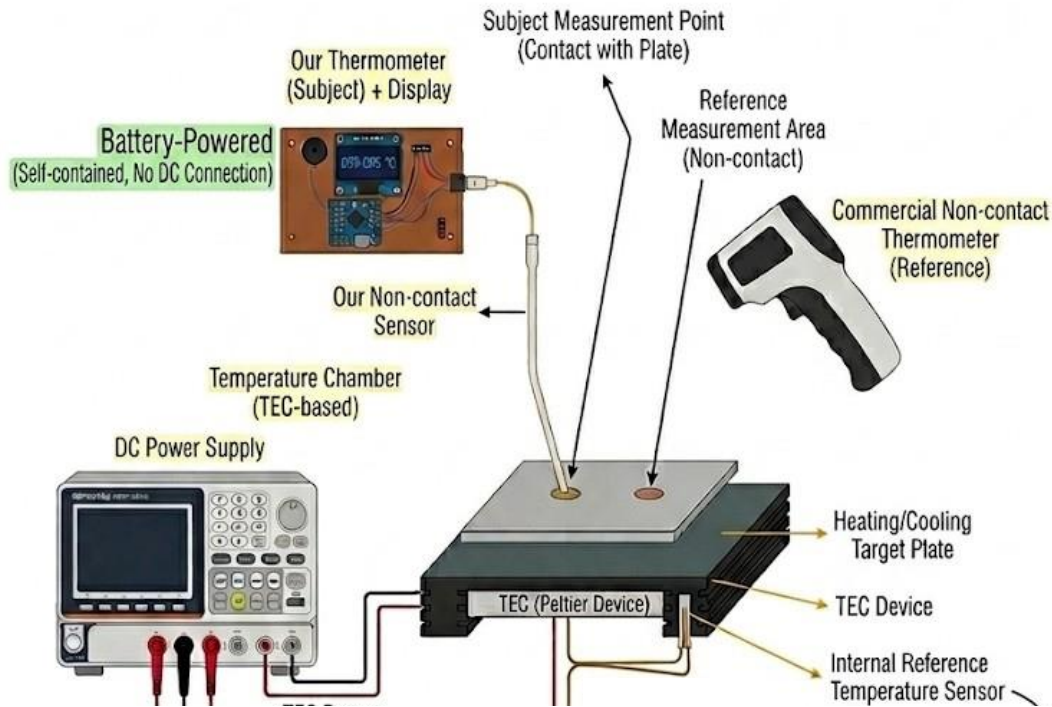

Figure-1: Test set-up for thermometer comparison
1. Make the connections as shown on Figure-1.
1. Make the connections as shown in Figure-1.